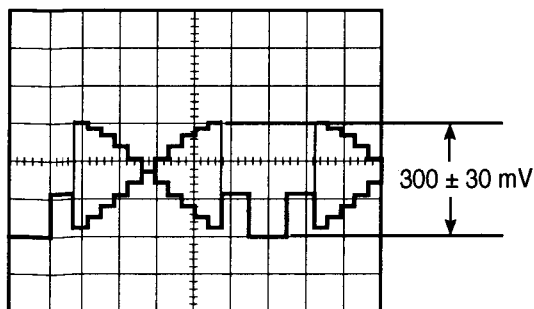

Fig. 5-15
- Set the Lens Iris so that the signal level at the pin 1 of CN2 becomes 300 ± 30 mV as shown in Fig. 5-15.